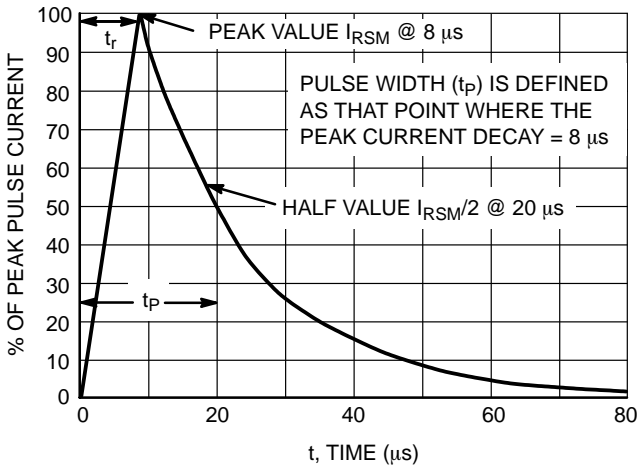

Figure 3. 8 x 20 μs Pulse Waveform
1. Non-repetitive current pulse per Figure 3
4.  $8 \times 20 \mu\text{s}$  pulse waveform per Figure 3